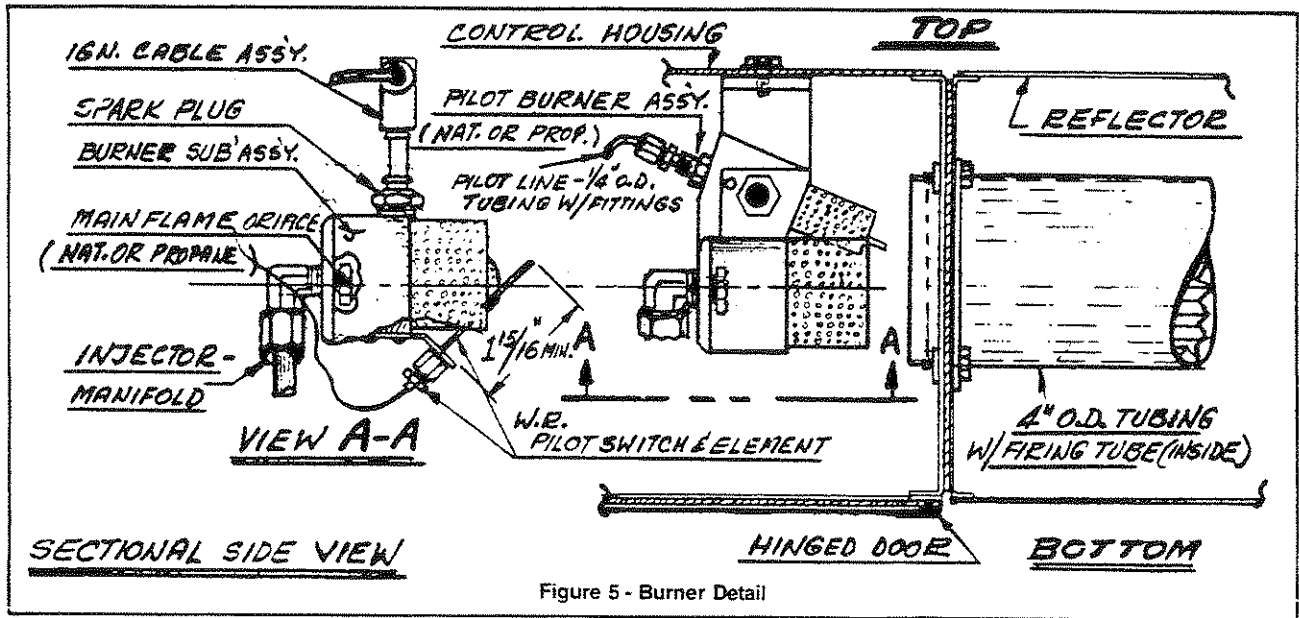

Figure 5 - Burner Detail
- b. If pilot flame appears suitable, observe color of pilot sensing element, which should glow a dark red or orange color. If the element is not a dark red or orange color check that the mounting bracket positions the element in the pilot flame and the proper pilot switch is installed (PN 75710). With PN 75710 the extension of the element beyond the mounting bracket will be at least 1-15/16 inch, see Figure 5.